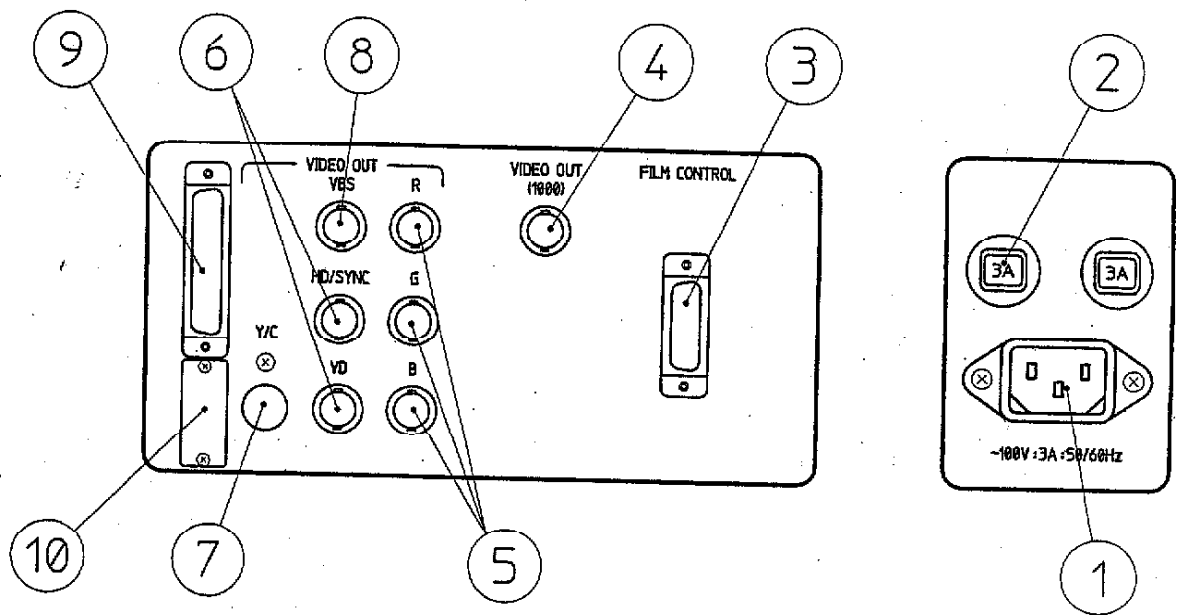
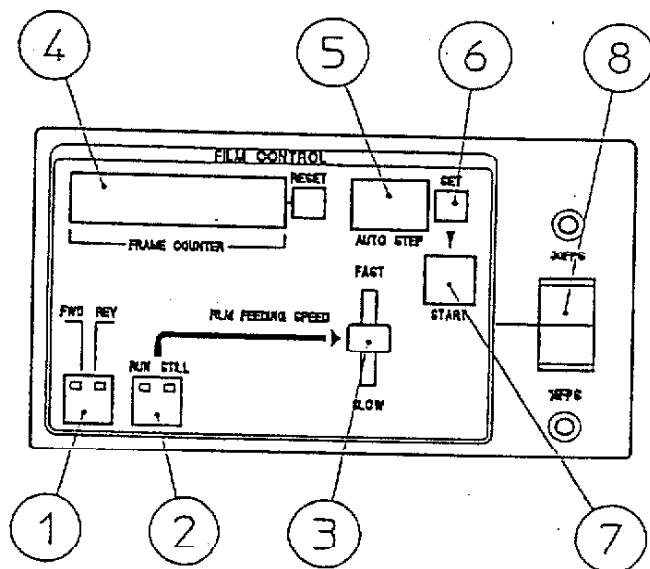

Fig. 1-3 Rear Panel
Fig. 1-4 Operation Unit
1.3 Rear Panel (Fig. 1-3)
- ① AC IN receptacle : Connect the Power Cable to this receptacle. Input voltage is AC 100 V.
- ② Contact Breaker : This holder houses a 3A non-fuse breaker.
- ③ Film Control receptacle : Connect the Cable of the Operation Unit.
- ④ VIDEO OUT (1000) : Output connector for High definition camera (option).
- ⑤ RGB VIDEO OUT : Output connector for Video Signal of each channel. Sync. on Green is available by internal setting. (factory setting is not)
- ⑥ HD/SYNC & VD OUT : Output connector for Synchronous Signals. Selection of HD or SYNC is available by internal setting. (factory setting is HD)
- ⑦ Y/C OUT : Output connector for S-Video Signal.
- ⑧ VBS OUT : Output connector for NTSC Video Signal.
- ⑨ RS-232C receptacle : Bus receptacle for RS-232 remote control.
- ⑩ Switch Cover : DIP switches for RS-232C setup is located inside the Cover.
1.4 Operation Unit (Fig. 1-4)
- ① FWD/REV button : Alternate push-button type switch for selecting the film feed direction. Film is fed from the Right Reel to the Left Reel in FWD and is fed in the reverse direction in REV.
- ② RUN/STILL button : Alternate push-button type switch to start/stop film advances. The film advances in RUN and stops in STILL. Switching can be made at any speed during film run.
- ③ FILM FEEDING : Sliding the knob to vary the film feed speed in the RUN mode. SLOW position is recommended for initial film feeding check.
- ④ FRAME COUNTER : 5-digit LED indicator for displaying the frame count. Counting increases in FWD and decreases in REV. Use the RESET button next to the Counter to reset the Counter to zero. A minus (-) sign is displayed when counting in reverse from zero.
- ⑤ AUTO STEP : 2-digit LED indicator for displaying the numbers preset using the SET button.
- ⑥ SET button : Push-button switch for presetting the number of frames to be fed at one time in the AUTO STEP mode. The number increases as the button is pressed up to 10 and is displayed in the AUTO STEP display.